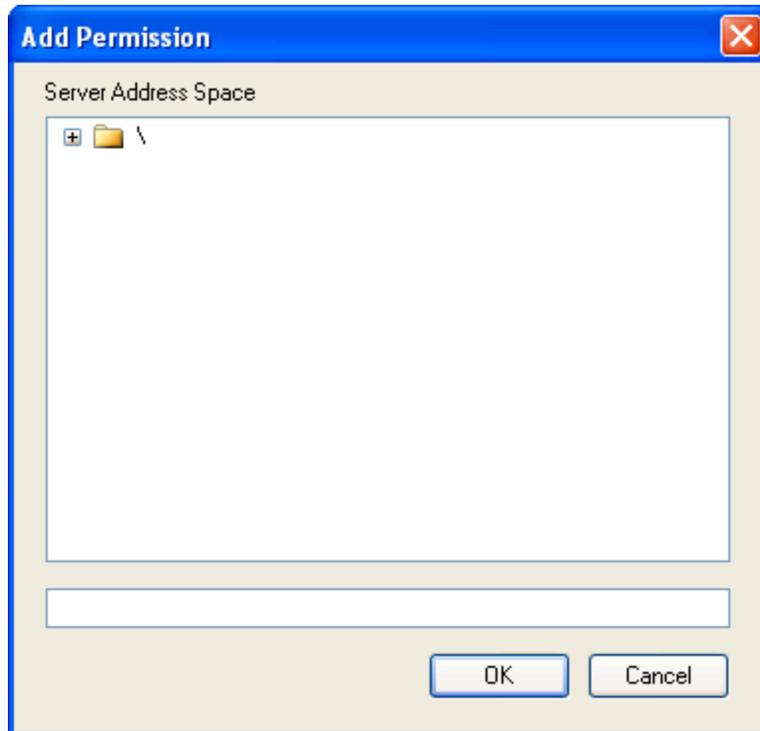

Figure 53 - Add User Permission Window
2. The **Add User Permission** window (Figure 53) appears. This window allows you to browse the OPC server address space to find either a path in the hierarchy, or a particular OPC item.